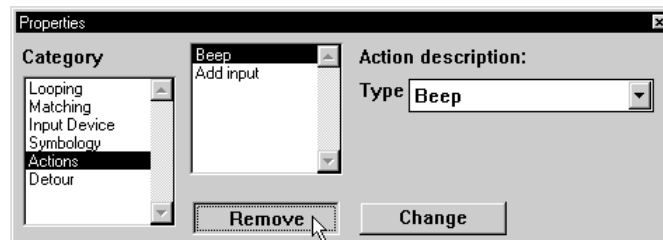

Figure 4-48 Remove Beep Action
22. Click **Remove** to delete the action from the list (Figure 4-48).